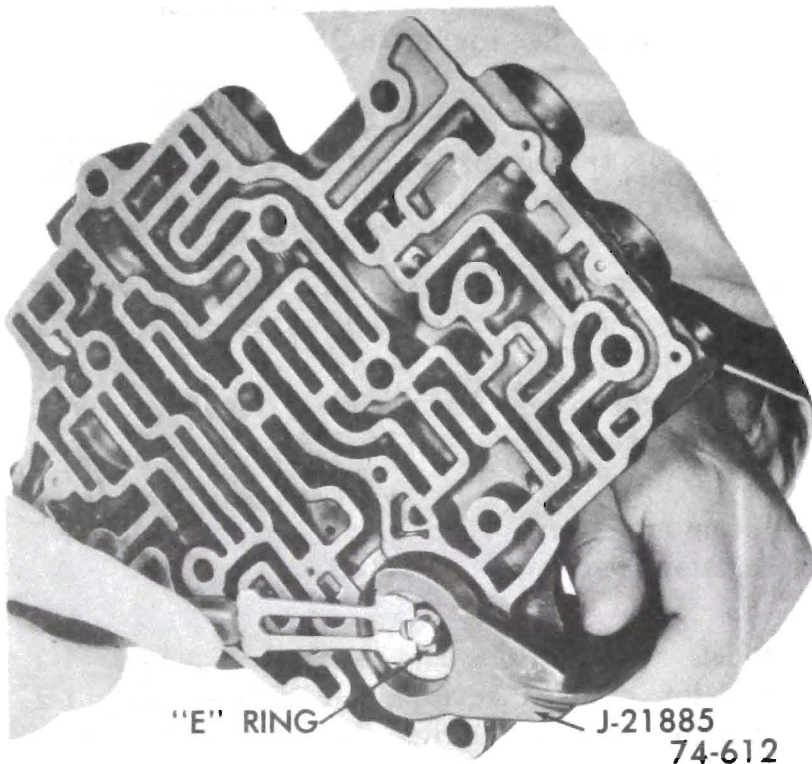

Figure 76-153
2. Install special Tool J-21885 and compress spring and piston. Secure with retaining "E" ring. See Figure 76-153.